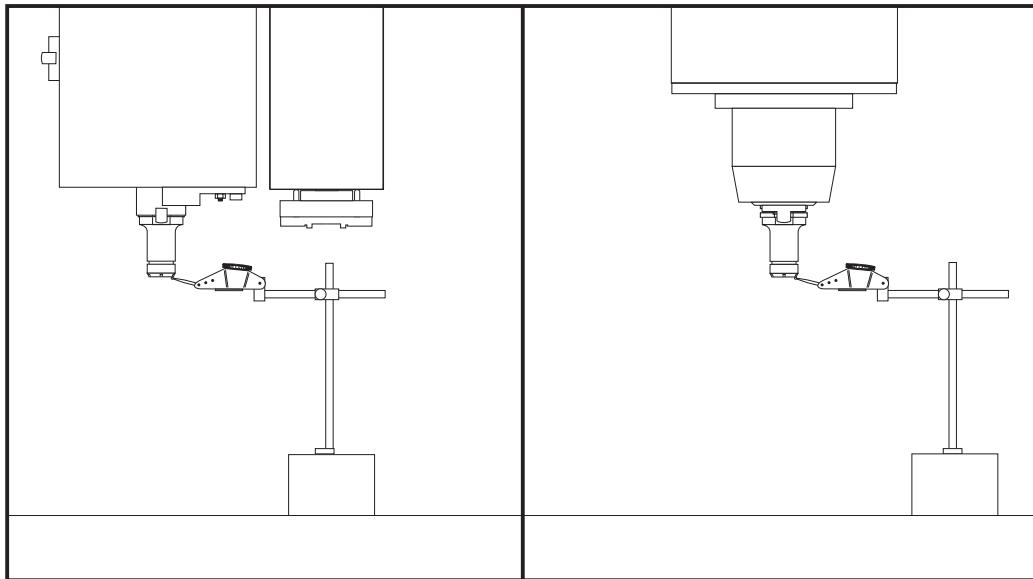

Figure 3-78 Setting Parameter 64, indicator reference measurement.
6. Enter DEBUG. Jog handle the Z-axis up or down until the end of the tool is at the same height as the measured value found when the tool was placed in the tool pocket. Record the Z-axis spindle height value. Refer to Figure 3-78.